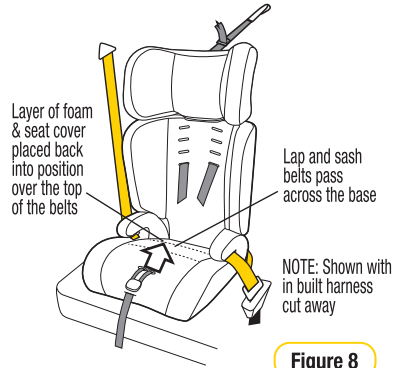

Figure 8
Step 4: Place layer of foam and seat cover back into position over the top of the vehicle belt (refer Figure 8).